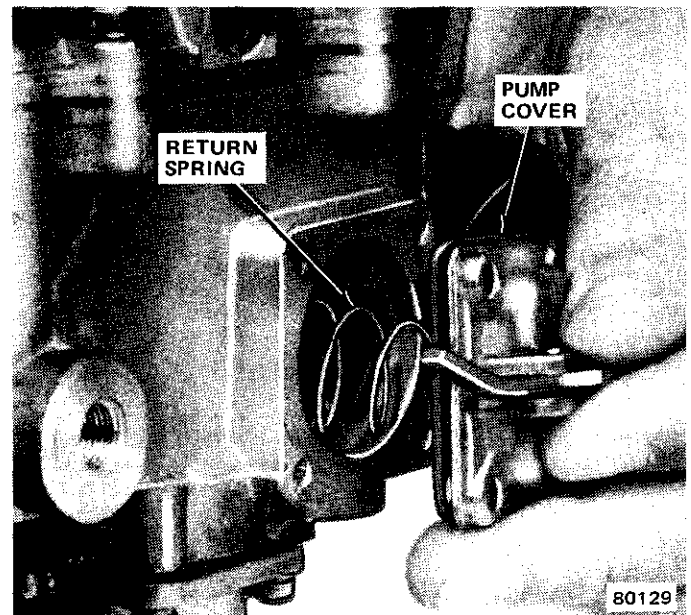

Fig. 1J-52 Accelerator Pump Assembly
(19) Invert main body and remove power valve cover, gasket and screws. Remove power valve (fig. 1J-53). Remove and discard power valve gasket.
(20) Remove limiter caps from idle mixture adjusting screws. Use soldering gun to cut through limiter caps. Remove idle mixture adjusting screws and springs.